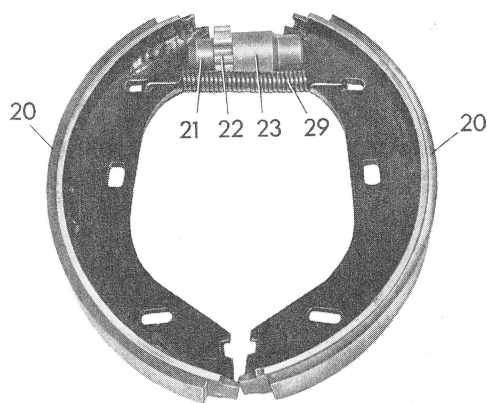

Fig. 13
8 Disconnect return spring (29) from brake shoes (20) and remove adjusting device (21 to 23) (Fig. 13).
14 Attach restoring spring (29) to both brake shoes (Fig. 13).